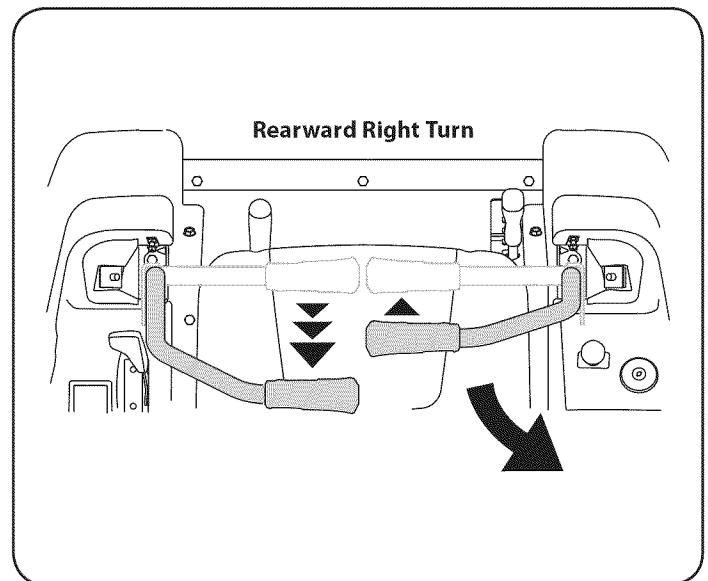

Figure 19
3. To turn to the right while traveling in reverse, move the right drive control lever forward of the left lever. See Figure 19.